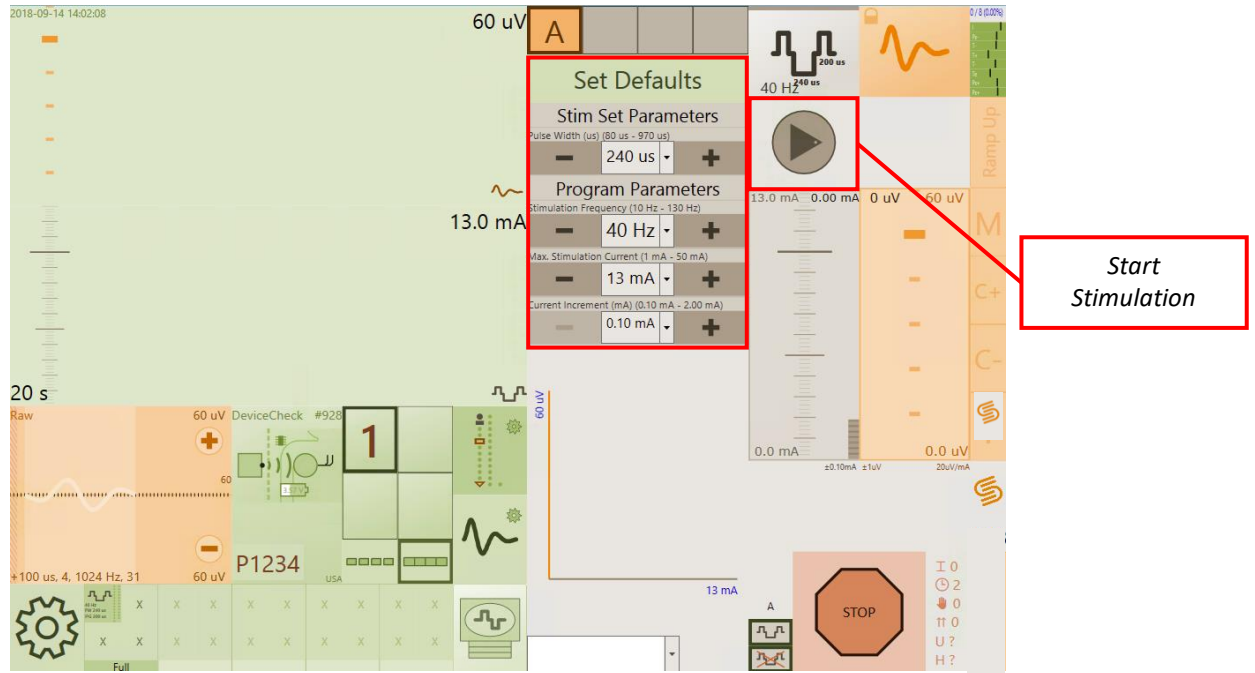
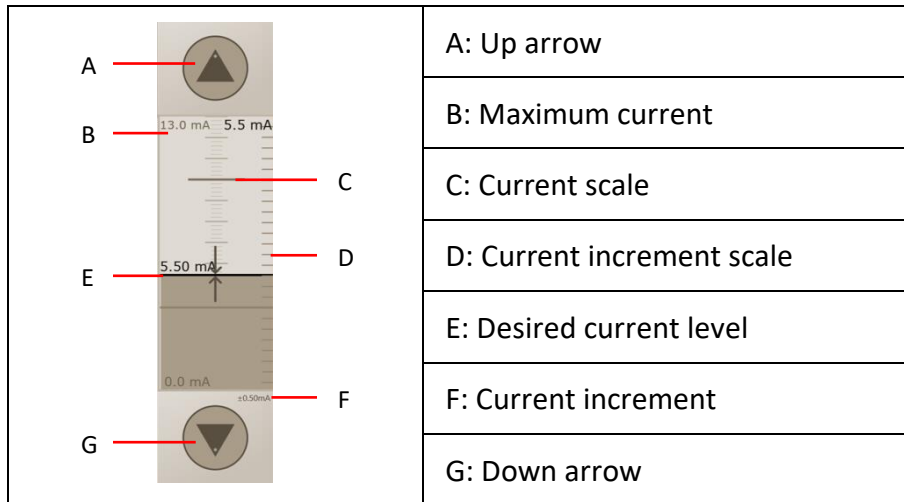

Figure 6.12: Location of the stimulation settings menu and *Start Stimulation* arrow on the CPA.
Figure 6.13: Features of the stimulation current control.
- Touch the *Stimulation Settings* icon  to change the stimulation parameters (see Section 8.1). The icon will change to show the *Electrode Display* icon  (Figure 6.12). Changes made to the stimulation settings will affect the stimulation current control bar on the right (refer to Figure 6.13 for more details).
2. Touch the *Start Stimulation* arrow  (see Figure 6.12) to start stimulation with closed-loop disabled.